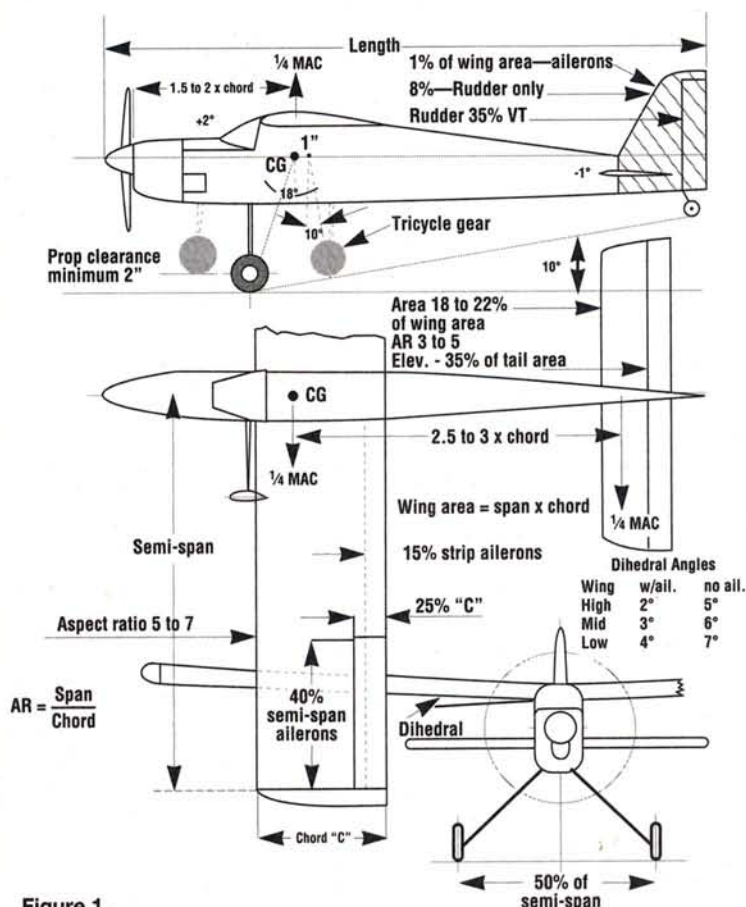

Figure 1.
- **Figure 1.** Basic proportions for eight models with engine sizes of from .10 to .60.